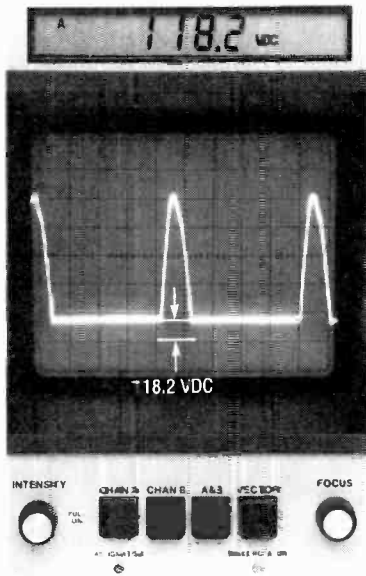
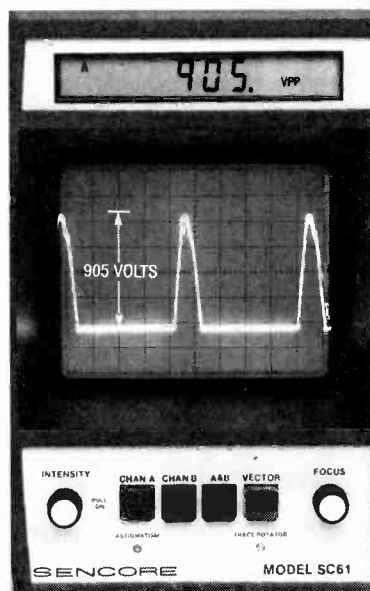

FIG. 1—THE WAVE SHAPE should be symmetrical during the pulse retrace time.
FIG. 3—THE PEAK-TO-PEAK voltage of the waveform should be between 900 and 1500 volts peak-to-peak. It's shown here as 905 volts peak-to-peak.
**FIG. 3—THE TIMING RELATIONSHIPS** in the inverter. When IC2 pin 3 goes high, the output of buffer IC1-c (pin 8) is high. That reverse biases D1 and allows the error amp signal to reach Q1, Q2, and Q3. At the same time, IC2 pin 4 is low, which causes the output of buffer IC1-d to be low. That grounds the gates of Q4, Q5, and Q6 thereby turning them off.
The first thing to check when analyzing the horizontal output pulse is the wave shape; it should look like the one shown in Fig. 1, and be symmetrical in shape during the retrace time. A wide peak at the top of the retrace, or deep saddle conditions, can be caused by an off frequency or glitch in the horizontal transistor base-drive signal. Such problems are often caused by a change in the value of the output-transistor timing capacitors, or by an excessive load on a B+ supply.
First measure the DC voltage level of the horizontal waveform. In Figs. 1 and 2 you can see that the digital display shows approximately 118 VDC, which is the regulated B+ voltage. Next measure the peak-to-peak voltage of the waveform. As you can see from Fig. 3, the display shows 905 volts peak-to-peak.